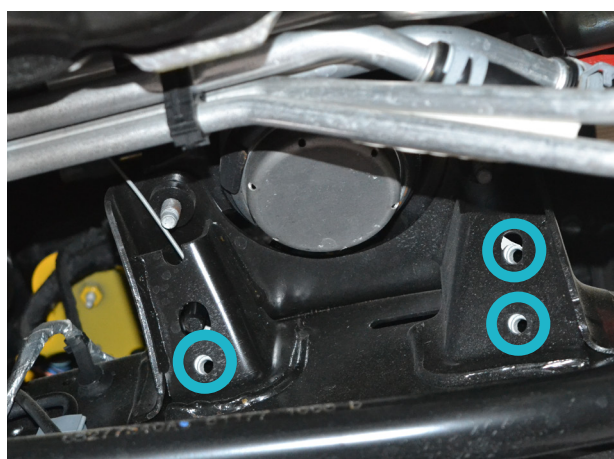

Fig.12
7. Install insert nut M8 (pos.J) into the frame (fig.12).